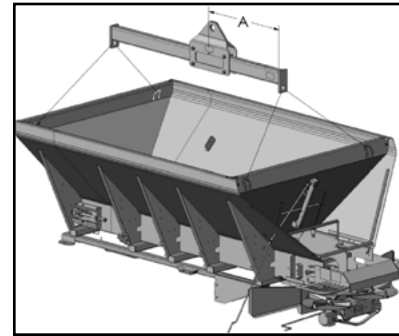

Figure 1 - Lift Spreader
1. Attach John Deere lifting device (see John Deere for part number and instructions) to each corner lift hook inside spreader as shown in Figure 1.